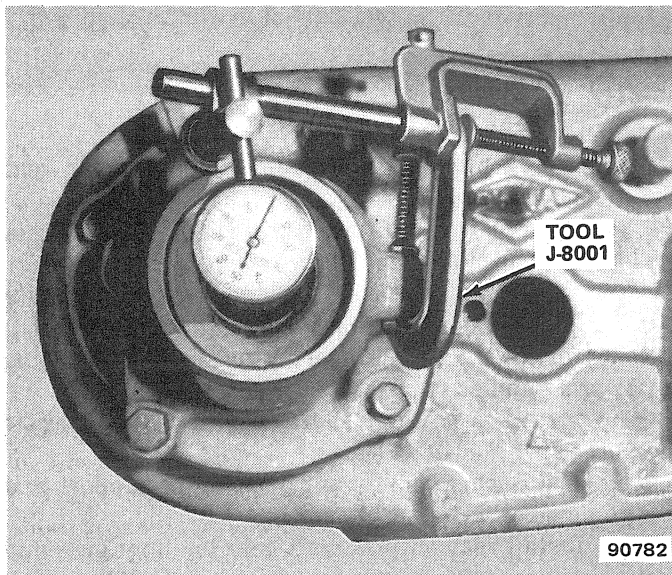

Fig. 2D-83 Checking Rear Output Shaft End Play
(a) Clamp Dial Indicator J-8001 onto bearing cap. Position indicator stylus so it contacts end of shaft (fig. 2D-83).
(c) If end play is not correct, remove or add shims between speedometer drive gear and output shaft rear bearing (fig. 2D-76).
(26) Install front output shaft rear bearing race (fig. 2D-79).
(27) Install front output shaft end, play shims and cover plate (fig. 2D-79). Tighten cover plate bolts to 35 foot-pounds (47 N•m) torque.